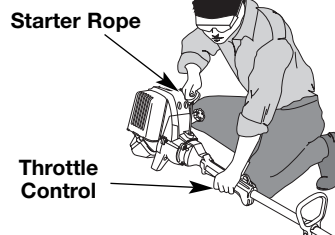

Fig. 13
**WARNING:** Avoid accidental starting. Make sure you are in the starting position when pulling the starter rope (Fig. 13). To avoid serious injury, the operator and unit must be in a stable position while starting. Make sure that any Add-On item is installed correctly and secure before starting the unit.
6. Crouch in the starting position (Fig. 13), squeeze the throttle control, and pull the starter rope briskly 5 times.